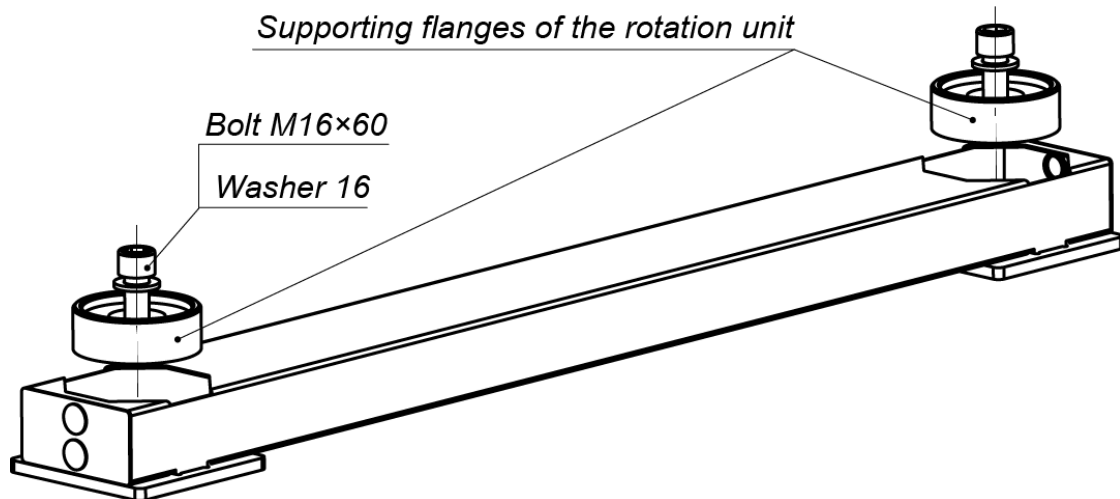

Figure 13. Fixation of the lower support on the mounting surface
10. Unpack the lower support of rotors (11) (box №6) and place it on the fixing holes with M16 anchor bolts (Fig. 13). Unpack the bottom bearing rotation units the bottom bearing rotation units (3) (inserted in the lower support). Insert supporting flanges of the rotation unit into the relevant places of the support and fix the lower support on the mounting surface with the two M16×60 anchor bolts with washers (not included in the standard delivery set).